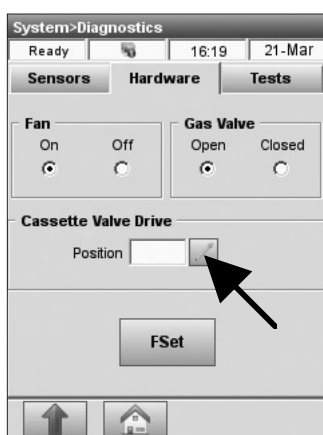

Fig. 8-10 Valve Drive
- Press  (Fig. 8-10) and enter the various positions (allowed positions are 1 - 12) to verify the valve drive moves smoothly and precisely.